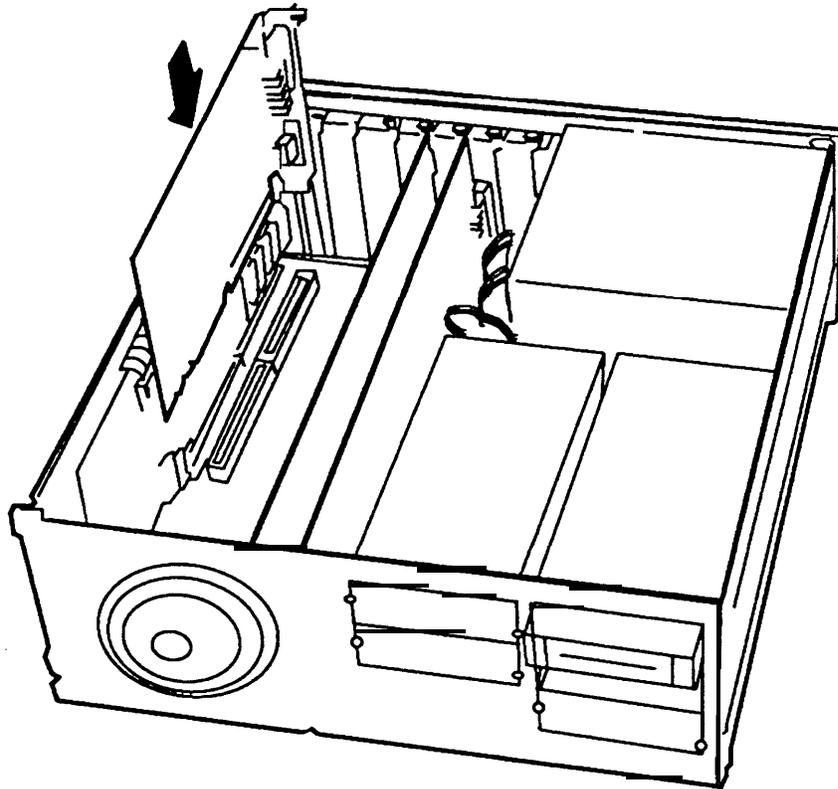
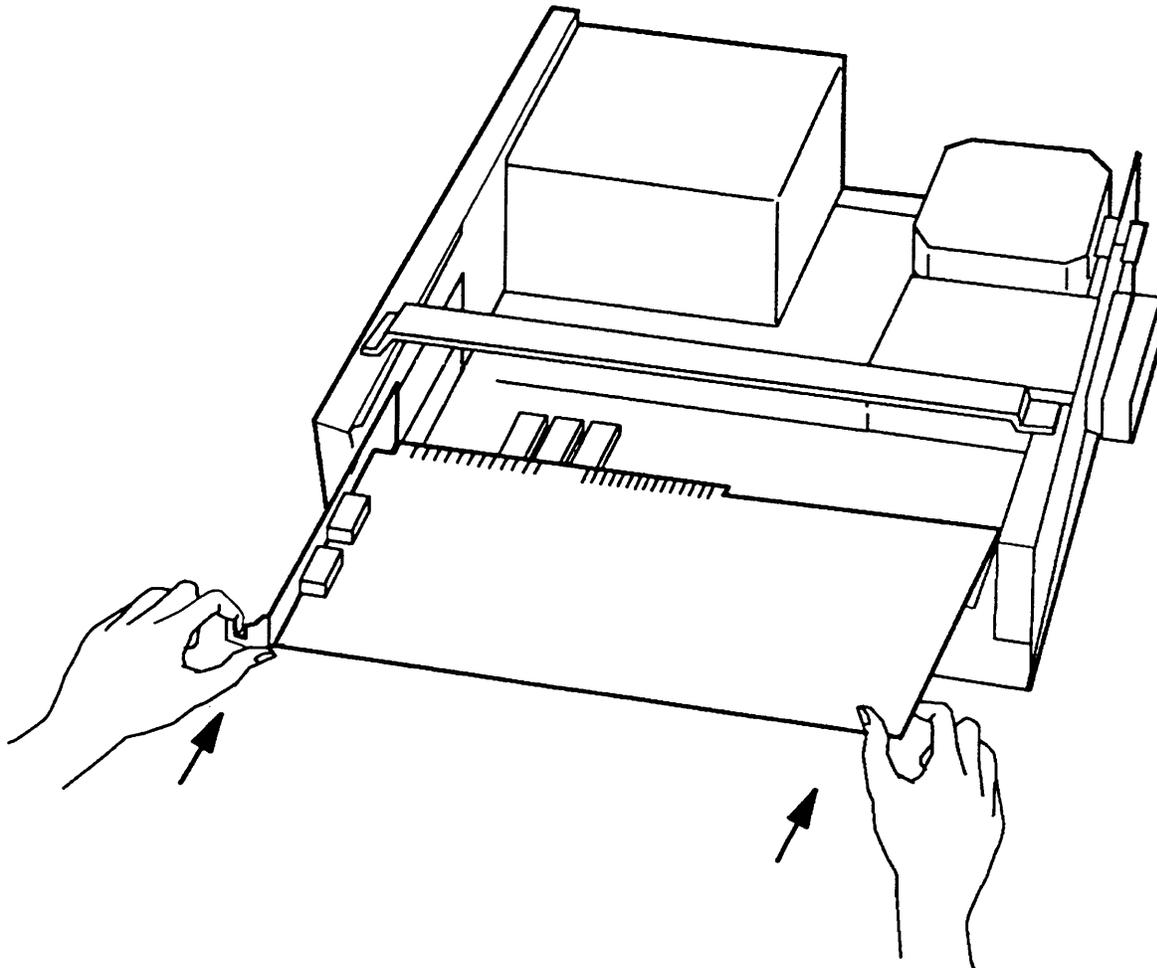

Figure 2-5. Inserting a Circuit Board into an Expansion Slot (Vertical Slot)
Figure 2-6. Inserting a Circuit Board into an Expansion Slot (Horizontal Slot)
2. Holding the expansion board by its edges, insert the board into the correct slot as shown in Figure 2-5 or Figure 2-6.